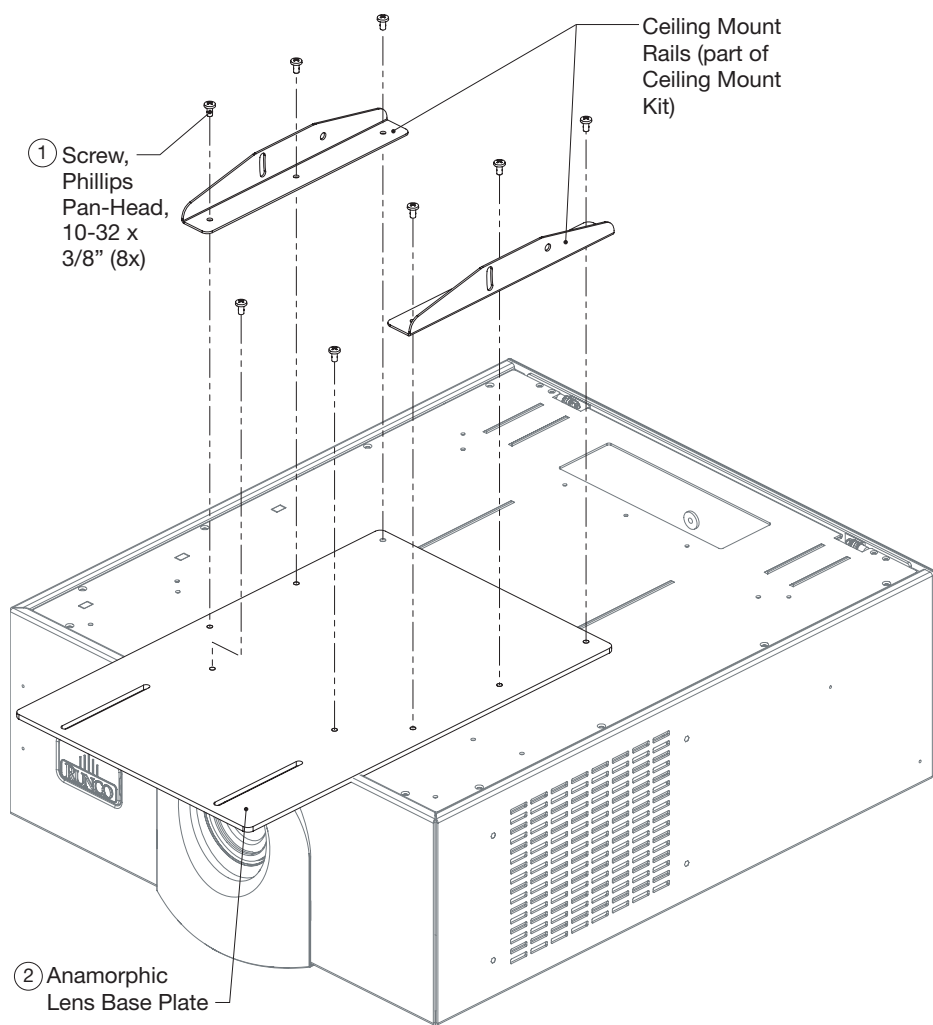

Figure 3-10. Projector with McKinley (Cylindrical) Lens Base Plate and Ceiling Mounting Rails - Exploded View
4. Secure the CineWide base plate (and ceiling mounting rails, if needed) to the projector with the Pan-Head Phillips screws provided with the CineWide lens base plate. See Figure 3-10.